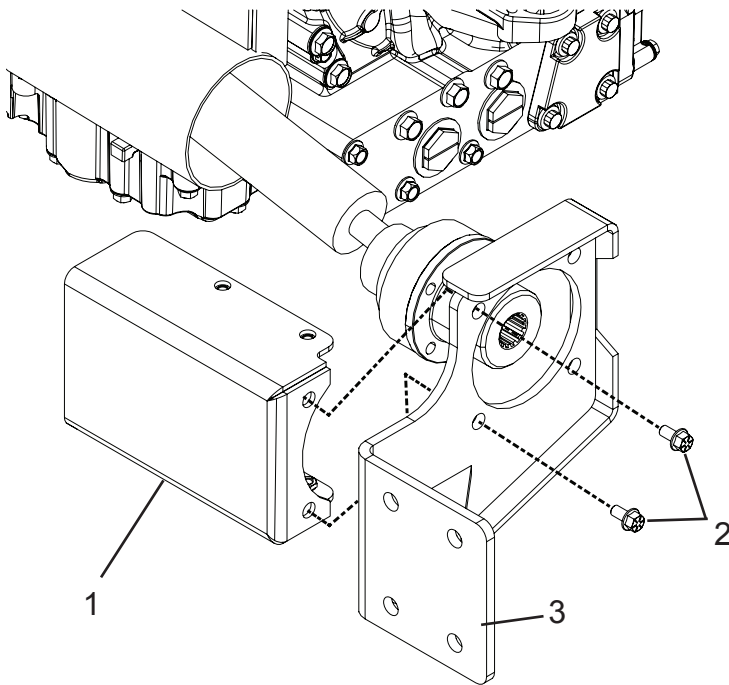

Figure 16
15. Using appropriate wrenches, install the new pump mount cover (P/N 1552174) (Figure 16, Item 1) using the retained hardware (Figure 16, Item 2) to the pump mount support plate (Figure 16, Item 3).